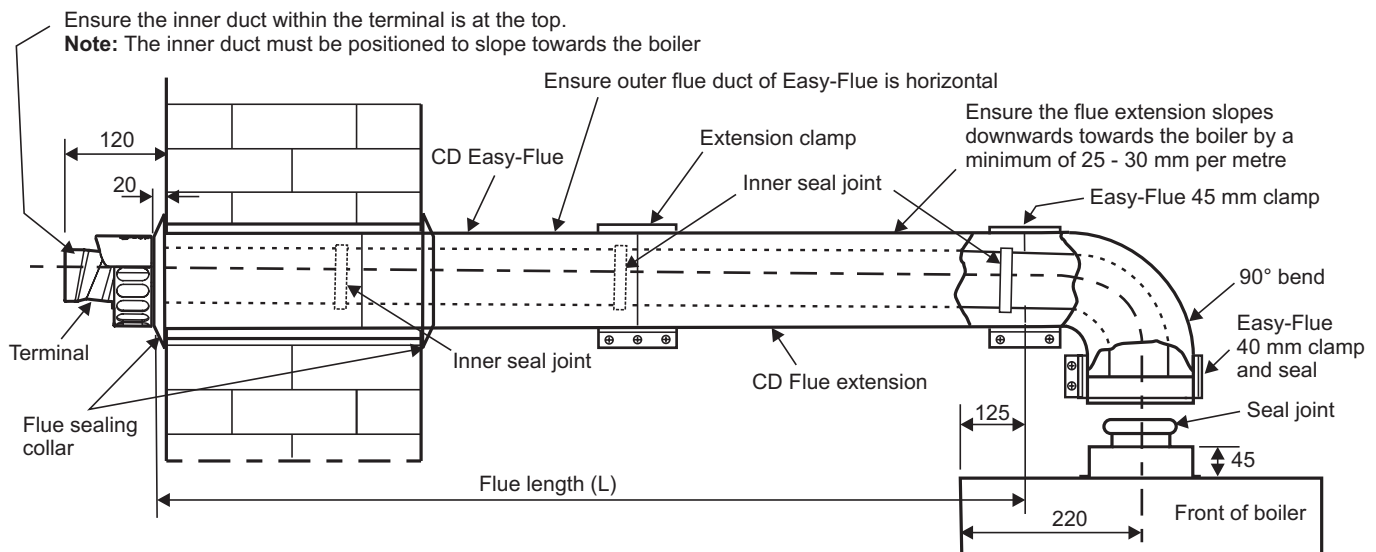

Fig. 4.11 - Side flue
4.8 EXTENDING THE FLUE - Fig. 4.11
Note: Check the flue terminal protrudes 120 mm out of the wall and that the inner duct of the terminal is positioned correctly, i.e. the inner duct within the terminal is at the top. See Fig. 4.11.